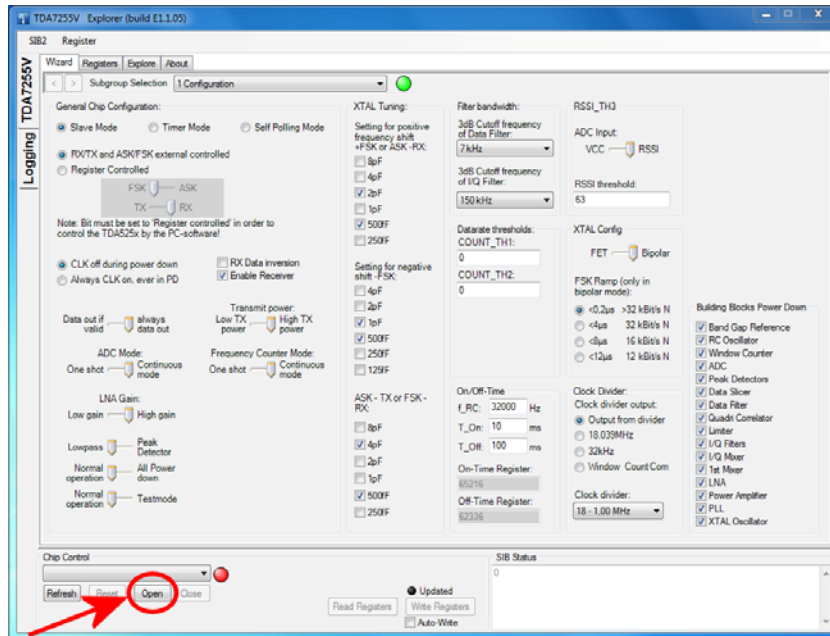
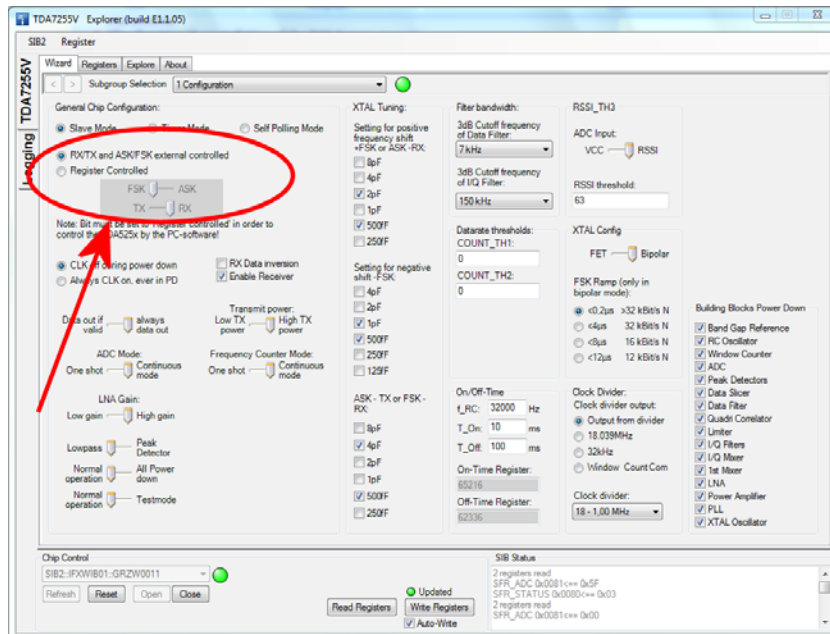
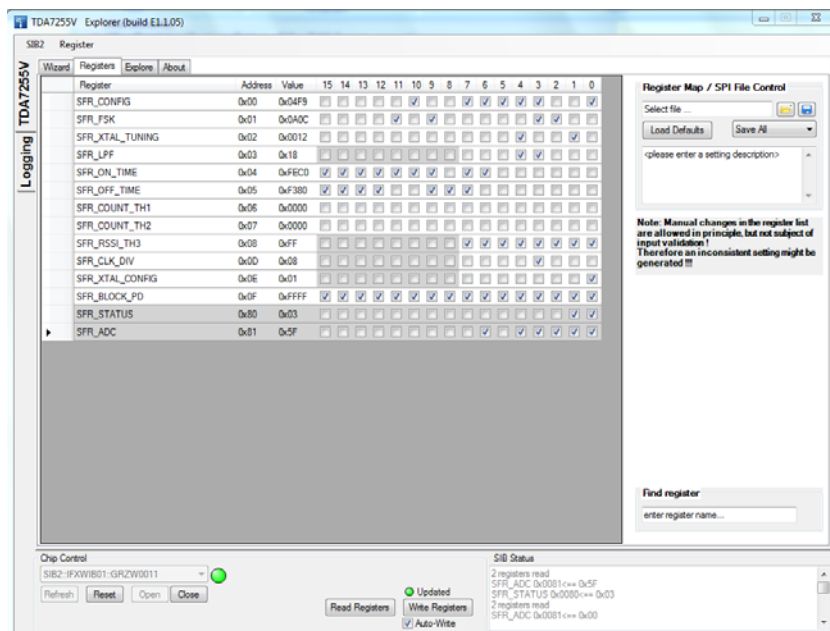

Figure 6 TDA7255V-Explorer, Open button
Figure 8 RX/TX and ASK/FSK external controlled or register controlled
Figure 9 TDA7255V-Explorer, Register tab
- Click to **OPEN** in the **Wizard**-tab to start the communication (see Figure 6).
- Now you are ready to configure the **TDA7255V**: Either by changing the settings in the **Wizard**-tab of the **TDA7255V Explorer** (see Figure 6), or by changing the bit values of each register directly in the **Registers**-tab (see Figure 9). **CAUTION:** If you choose RX/TX and ASK/FSK “Register Controlled” (see Figure 8) it is strongly recommend to remove the jumper of the RX/TX-multi-pin connector and ASK/FSK-multi-pin connector to avoid conflicting hardware and software settings and harming of the **TDA7255V**!
- It is strongly recommended to remove the jumper of the RX/TX-multi-pin connector and ASK/FSK-multi-pin connector before you select “RX/TX and ASK/FSK Register Controlled” (see Figure 8) to avoid conflicting hardware and software settings and harming of the **TDA7255V!** If you select “RX/TX and ASK/FSK external controlled” (see Figure 8) you have to set the jumper of the ASK/FSK- and RX/TX-multi-pin connector according the desired mode (see Figure 2).